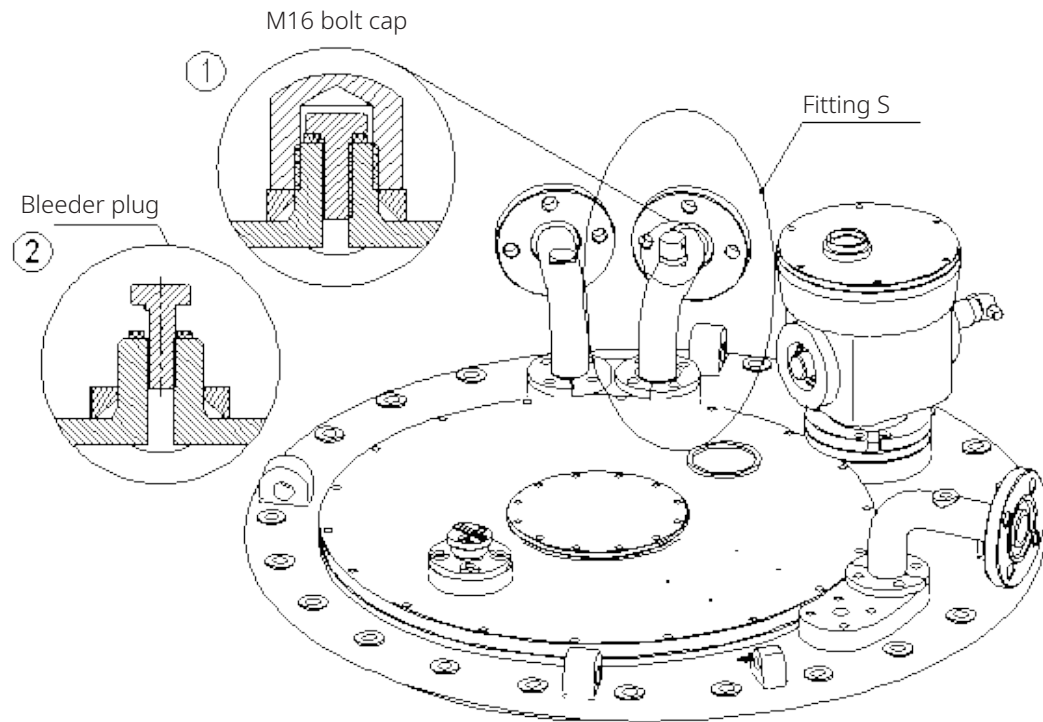

Figure 9-2
- Remove the M16 bolt cap from fitting S (use a 24mm wrench, see Figure 9-2).